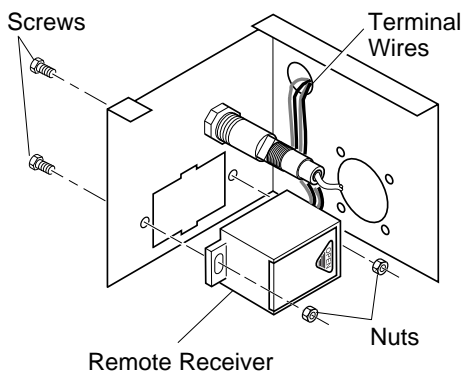
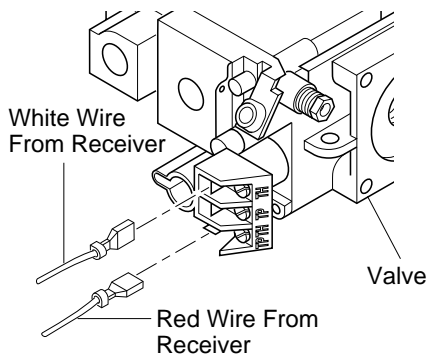

Figure 28 - Installing Remote Receiver
Figure 29 - Connecting Wires
4. Install remote receiver unit onto remote switch bracket using screws and nuts removed in step 2. See Figure 28.
5. Route wires through hole in the upper portion of the switch plate (Figure 28). Connect wires as shown in Figure 29. (Black and blue wires are not used for this application.)